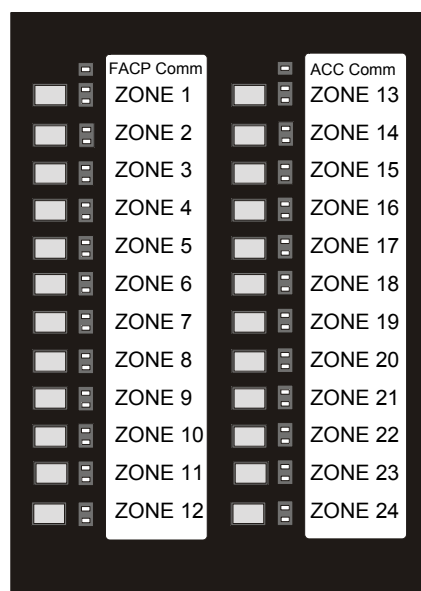

Figure 4.4 ACC-ZPMK Keypad/Annunciator
4.4.2 ACC-ZMPK LEDs Visible with Backbox Door Closed (Figure 4.4 on page 66)
A green LED that remains on when an FACP is connected to the ACC-25/50ZS & ACC-25/50ZST via the ACS (EIA-485) link from TB1 of the ACC-ZPMK to the ACS terminal on the FACP. If the LED fails to light, an FACP is not connected or the ACS wiring is faulty. The LED is located in the top left of the keypad (refer to Figure 4.4 on page 66 for location).
A green LED that remains on when the ACC-ZPMK is properly communicating with the ACC-25/50ZS & ACC-25/50ZST main circuit board via the connecting cable. If the LED fails to light, communication has been lost between the ACC-ZPMK and audio panel. The LED is located in the top right of the keypad (refer to Figure 4.4 on page 66 for location).